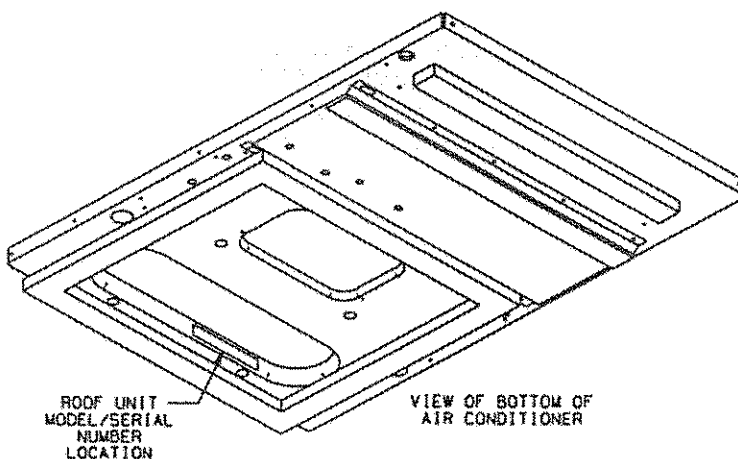

FIGURE 6
4. Inquiries to your RV Products Representative or RV Products on this unit must include the units **model and serial number**. The model number and serial number can be found on the I.D. Label located at the bottom of the roof unit, See Figure 6. Access to this label is accomplished by lowering the ceiling assembly. The rating plate can be read without requiring the removal of any parts, See Figure 8. Use **only the roof unit model and serial numbers** when sending in the optional four year parts contract.
5. Inquiries on the Ceiling Assembly should contain the ceiling assembly part, serial or code date number. This information can be found on the I.D. Label, See Figure 6.